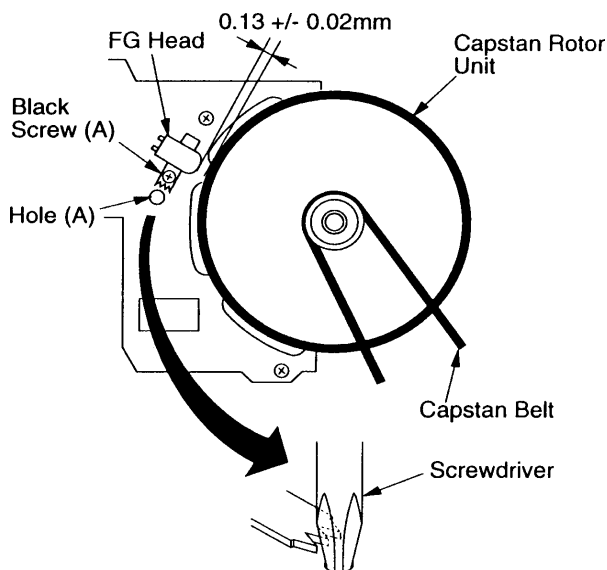

Fig. 8 - FG Head Gap Adjustment
### FG Head Gap Adjustment (Fig. 8)
2. From the bottom side of the chassis, slightly loosen the black screw (A) and insert a number 1 or number 2 phillips screwdriver into hole (A) as shown in Fig.8.
4. Tighten the black screw (A).